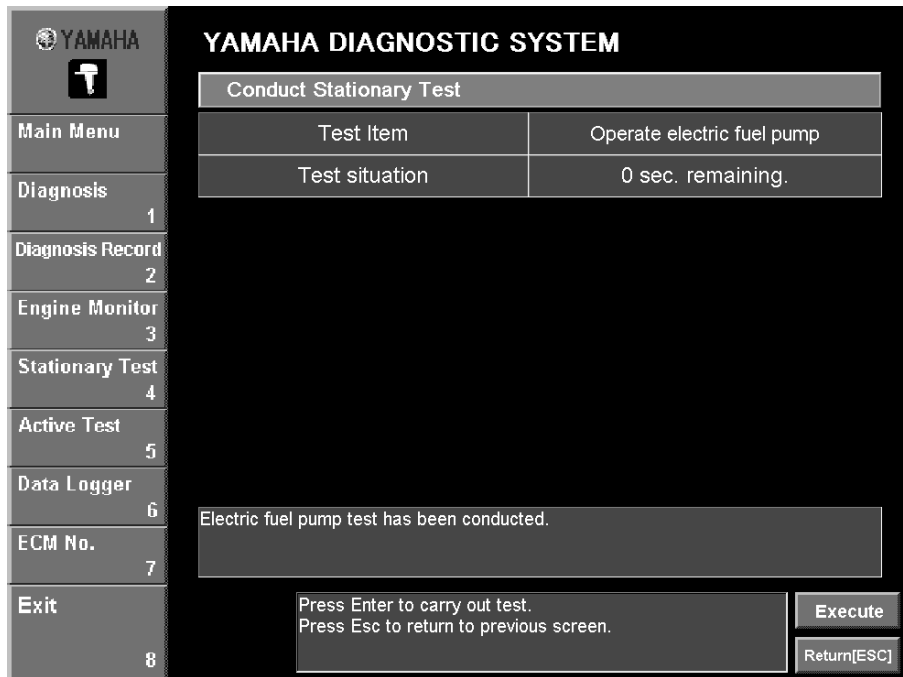

Fig. 35
- To perform the test again click the **Execute** button or press the Enter key on your keyboard. To perform a different test, click the **Return [ESC]** button or press the Esc key on your keyboard to return to the window where a different test can be selected. (Fig. 35)